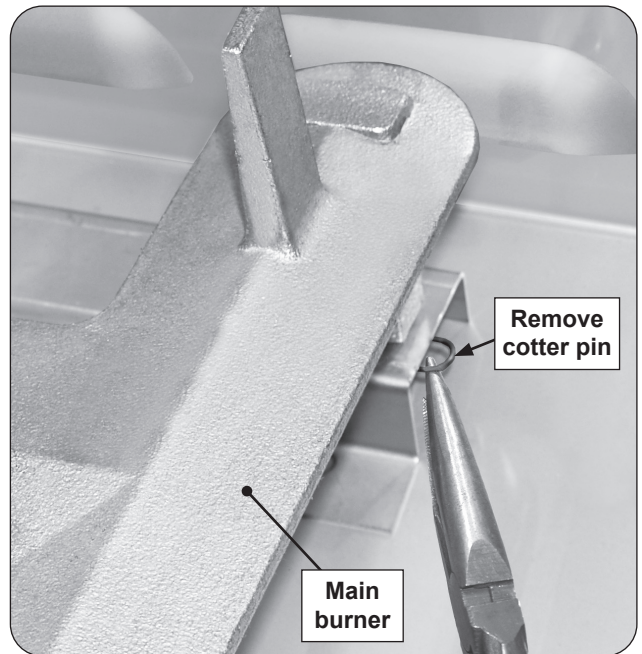

Fig. 47-1 Main burner removal
2. Locate and remove the cotter pin from the left or right rear burner anchoring peg by pulling it straight out of the cotter pin hole using fingers or needle-nose pliers. See Fig. 47-1.